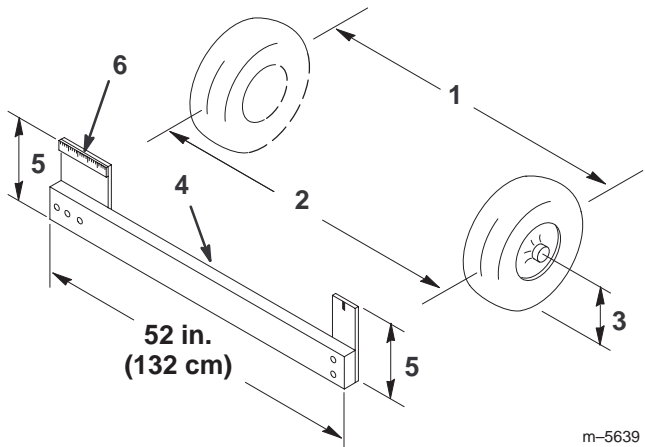

Figure 26
2. Measure the distance between both of the front tires at the axle height at both the front and rear of the front tires (Fig. 26). A fixture or alignment gauge is needed for the rear measurement of the front tires at axle height. Use the same fixture or alignment gauge to accurately measure the front of the front tires at axle height (Fig. 26).